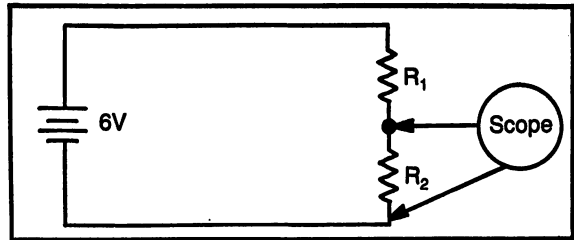

Fig. 9-18. Oscilloscope is used to measure total voltage.
- (9) Compare the measured value of current with the calculated value of step 5. Explain the difference and how to determine what is an acceptable tolerance range.
- (10) In this step, the oscilloscope will be used to measure the total voltage in the circuit. Connect the oscilloscope probe to the top of R_1 , as shown in Fig. 9-18, and the ground lead connected to the negative side of the battery. Note: be sure the AC/GND/DC switch is in the DC position.